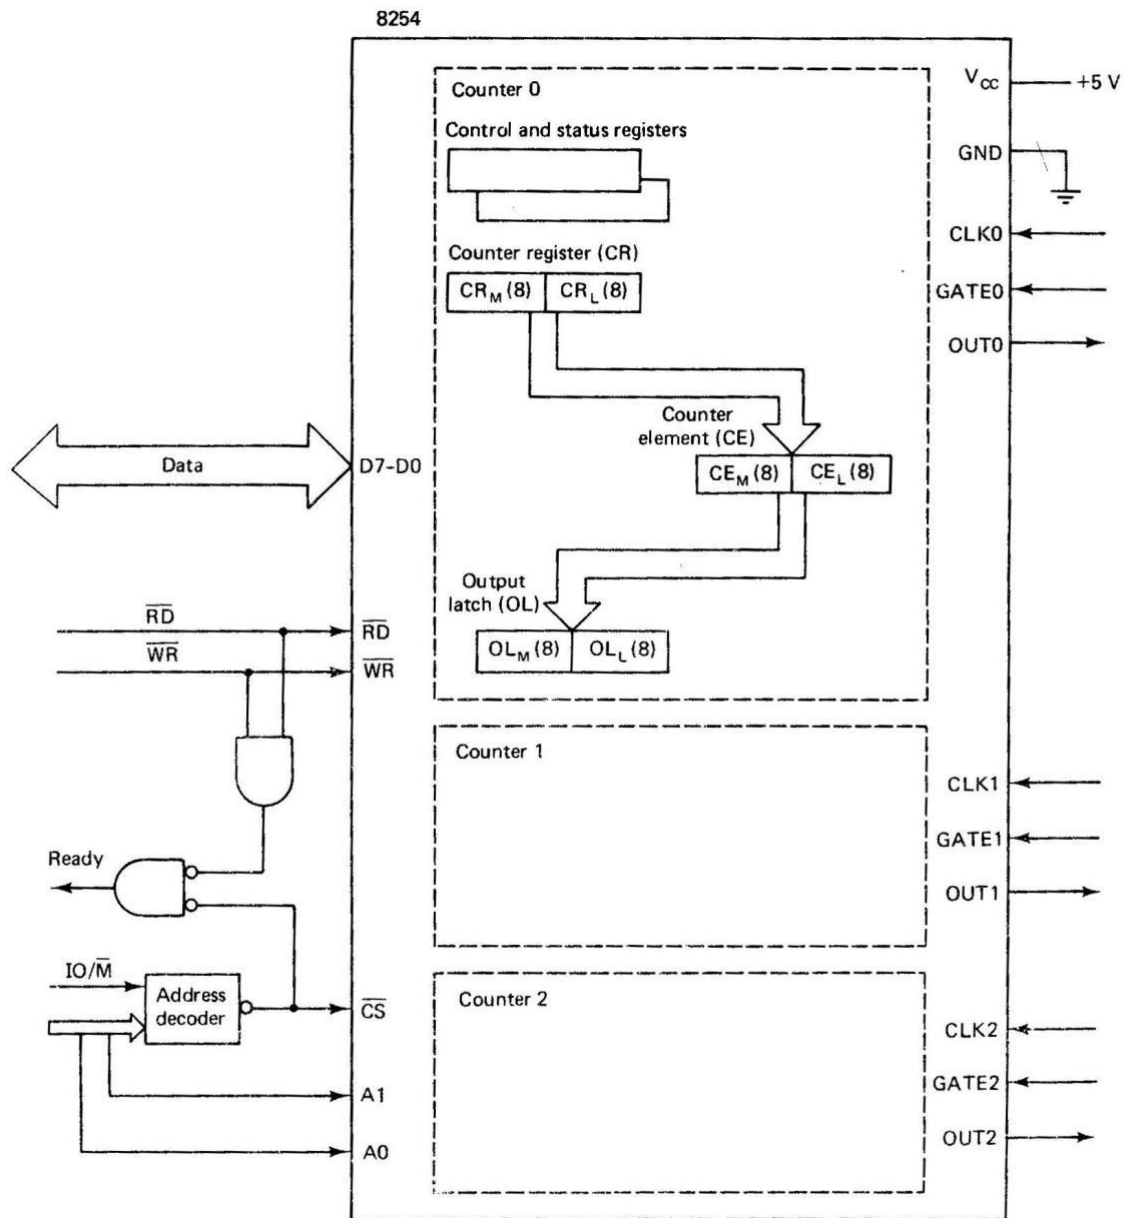

Figure 4.5: Diagram of the 8254
A diagram of Intel's 8254 interval timer/event counter is given in Figure 4.5. The 8254 consists of three identical counting circuits, each of which has CLK and GATE inputs and an OUT output. Each can be viewed as containing a Control and Status Register pair, a Counter Register (CR) for receiving the initial count, a Counter Element (CE) which performs the counting but is not directly accessible from the processor, and an Output Latch (OL) for latching the contents of the CE so that they can be read. The CR, CE, and OL are treated as pairs of 8-bit registers. (Physically, the registers are not exactly as depicted, but to the programmer the figure is conceptually accurate.)